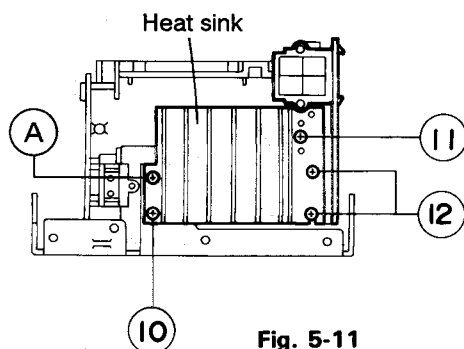

Fig. 5-11
5. Remove the screw (A) securing the heat sink to remove the ground wire from the LCD/System microcomputer board assembly (Fig. 5-11).
(Fig. 5-11).